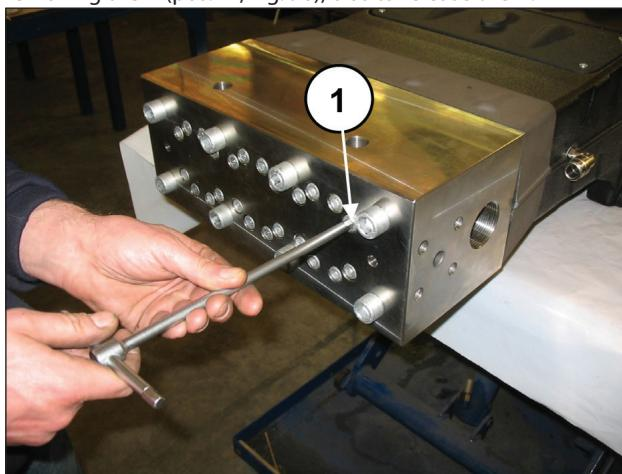
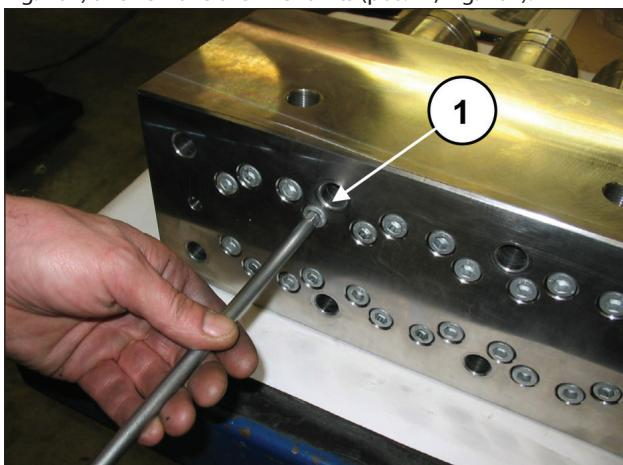
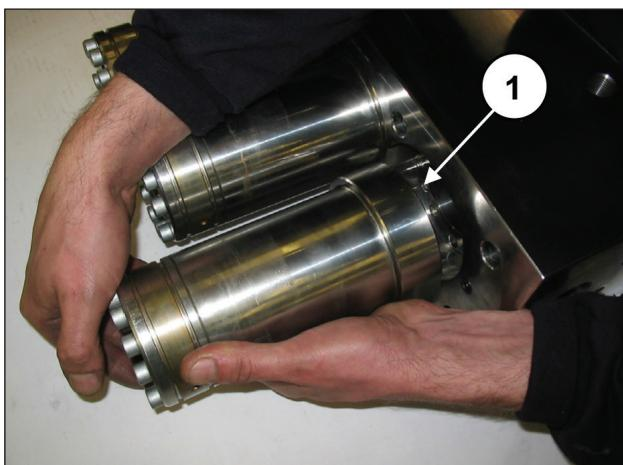

Fig. 96
Fig. 101
Fig. 102
Unscrew the M10x140 head liner fixing screws without removing them (pos. ①, Fig. 96), so as to release them.
Remove the M10x140 head liner fixing screws (pos. ①, Fig. 101) and remove the liner units (pos. ①, Fig. 102).
Separate the head and the spacer for the liners from the pump casing as shown in par. 2.2.1 (from Fig. 96 to Fig. 102).